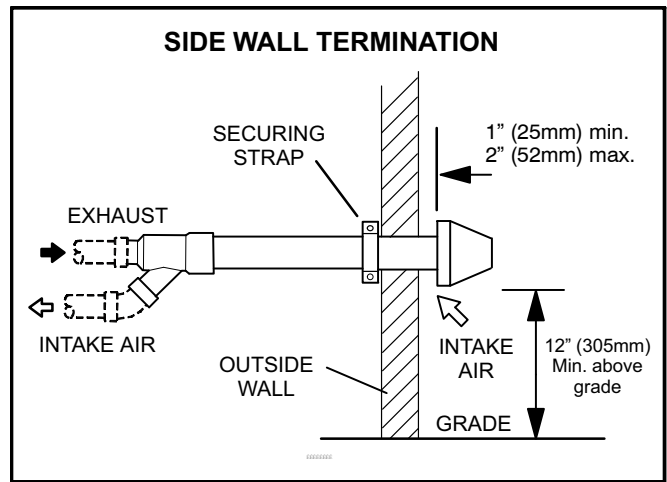

FIGURE 5
- 5 - Run outer pipe through wall opening. Use a sheet metal strap to secure termination to the wall opening as shown in figure 5.